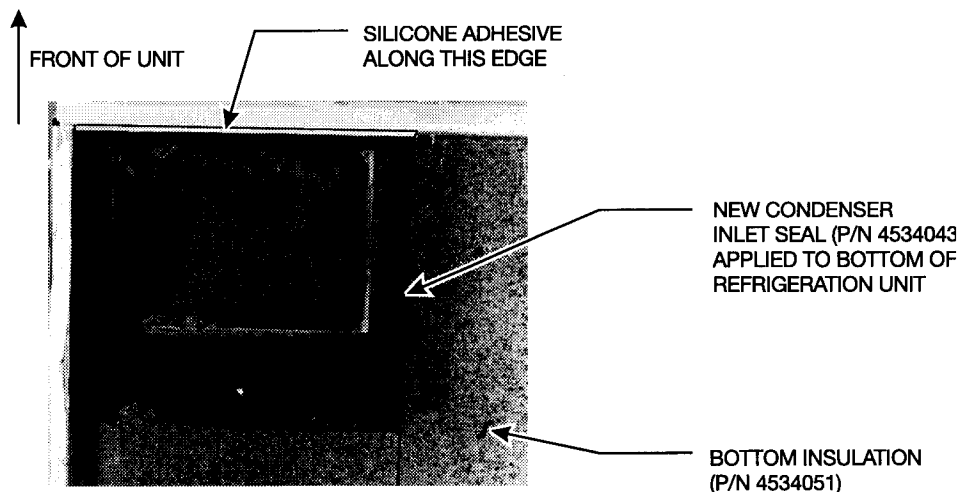

Figure 36
37. Remove the existing condenser inlet seal and adhesive from the underside of the refrigeration unit. Install a new condenser inlet seal (4534043). Apply a bead of silicone along the thin side, between the seal and the chassis flange. Allow to dry. **See Figure 36.**